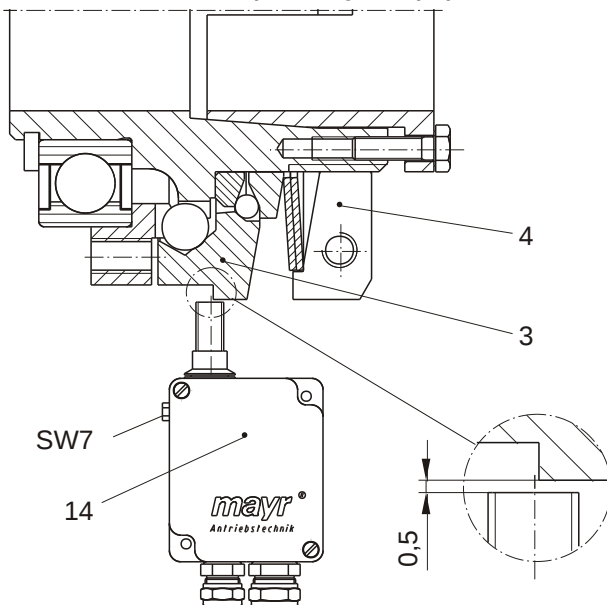

Fig. 13
The contactless limit switch is to be mounted onto the switching edge of the clutch (Fig. 13) so that no signal changes are caused during normal operation on the limit switch by the usual clutch run-out errors.
- ☐ Adjust the switch distance for the contactless limit switch acc. Fig. 13. The distance of the thrust washer (3) to the switching point can be adjusted using a hexagon head screw, wrench opening 7.